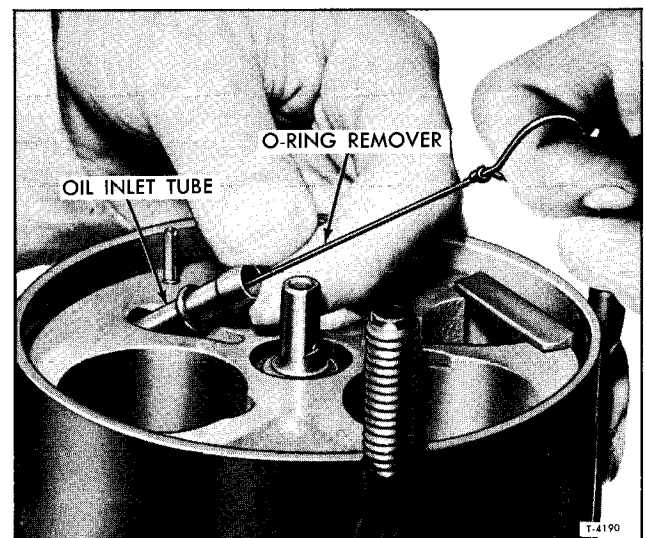

Figure 49—Removing Oil Inlet Tube and O-Ring
2. Remove the oil inlet tube and O-ring with tool (J-5139) as shown in Figure 49.